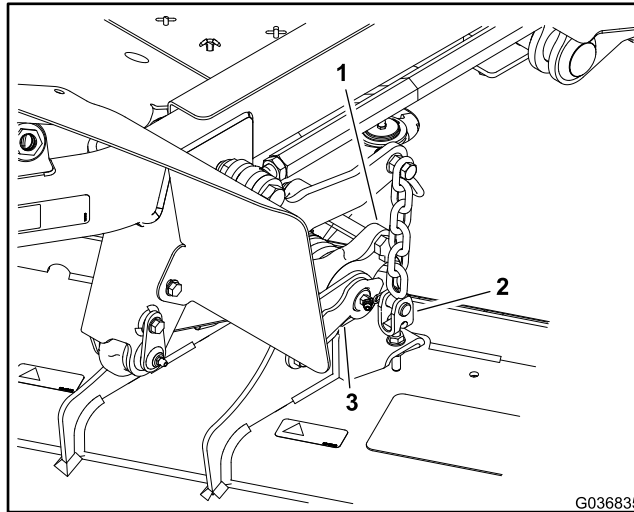

Figure 319
2. Remove the clevis yoke from the deck so that the retainer pin (item 3 in Figure 319) can be accessed.